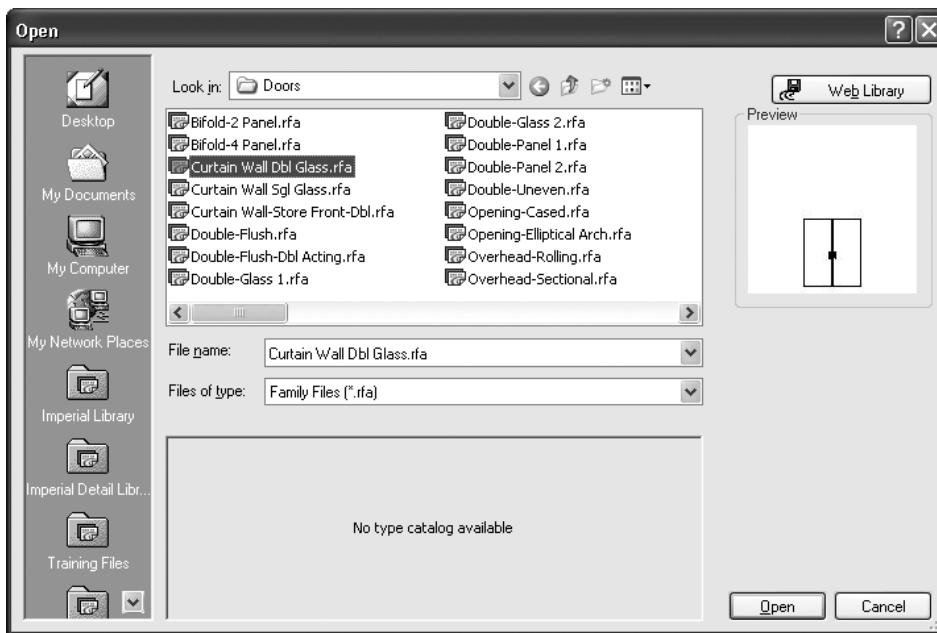

Figure 3-5.2 Door groups on hard drive
Each file represents a group of similar objects; next you will load four door groups (i.e., Families) into your project (Figure 3-5.2).
4. Select **Curtain Wall Dbl Glass.rfa**, and then click Open. (Figure 3-5.2)